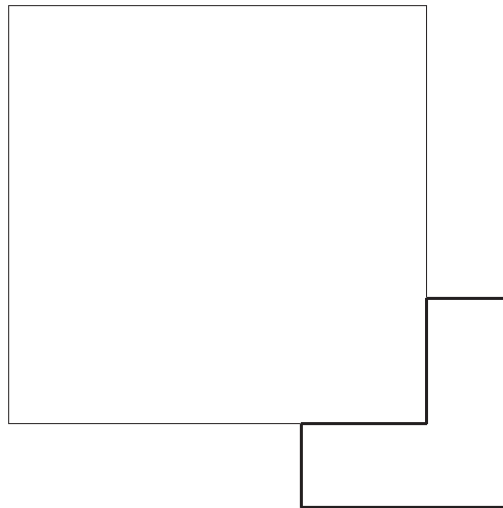

Figure 9-41 Sketched profile for the right wing
17. Move the cursor near the lower right corner of the square and sketch the profile shown in Figure 9-41, based on the dimensions given in the sketch plan.